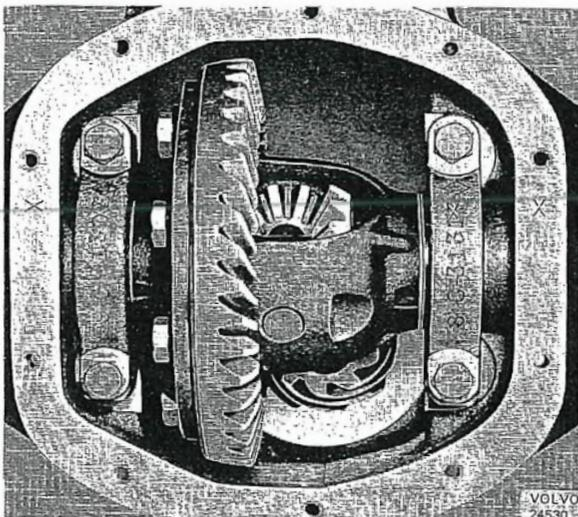

Fig. 4-135. Alignment markings on cap and carrier
5. Check the alignment markings on the cap and carrier, see Fig. 4-135. If there are no markings, or if they are difficult to see, mark one side with a punch. Remove the cap.